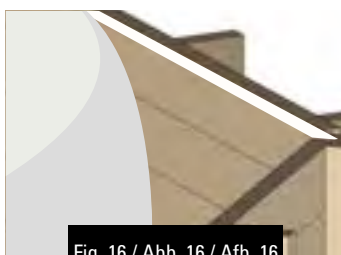

Fig. 16 / Abb. 16 / Afb. 16
- Unroll the blanket aligning it to the upper edge of the top boards (figure 16).